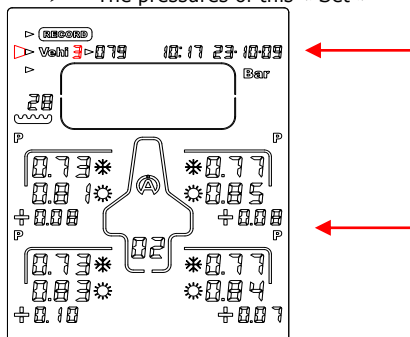

Figure 2
2) With the button  or  select the icon « **Vehi** » (figure 2)
3) With the button  or  select the vehicle wanted (5 to the total) (figure 2)